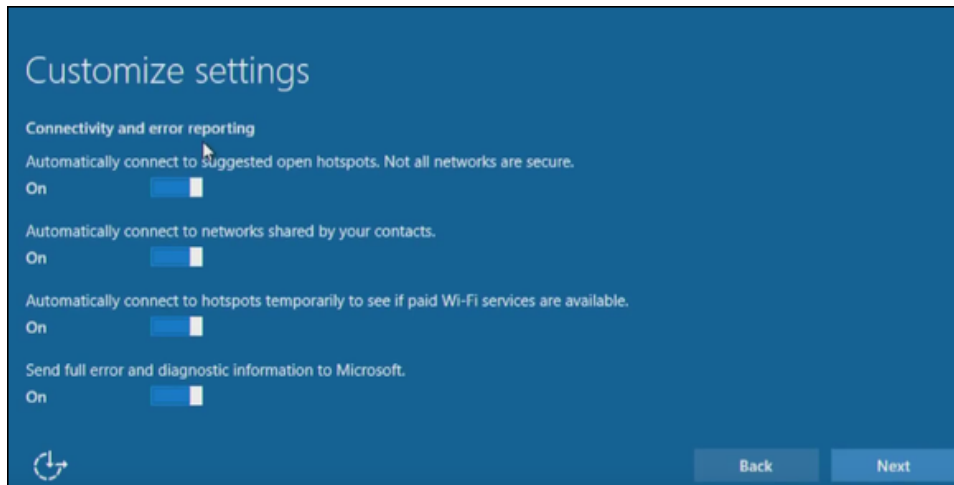

Figure 2-9. Customize Settings dialog—Connectivity and error reporting section
4. In the Connectivity and error reporting section of the Customize Settings dialog, turn off all settings and click **Next** (Figure 2-9).